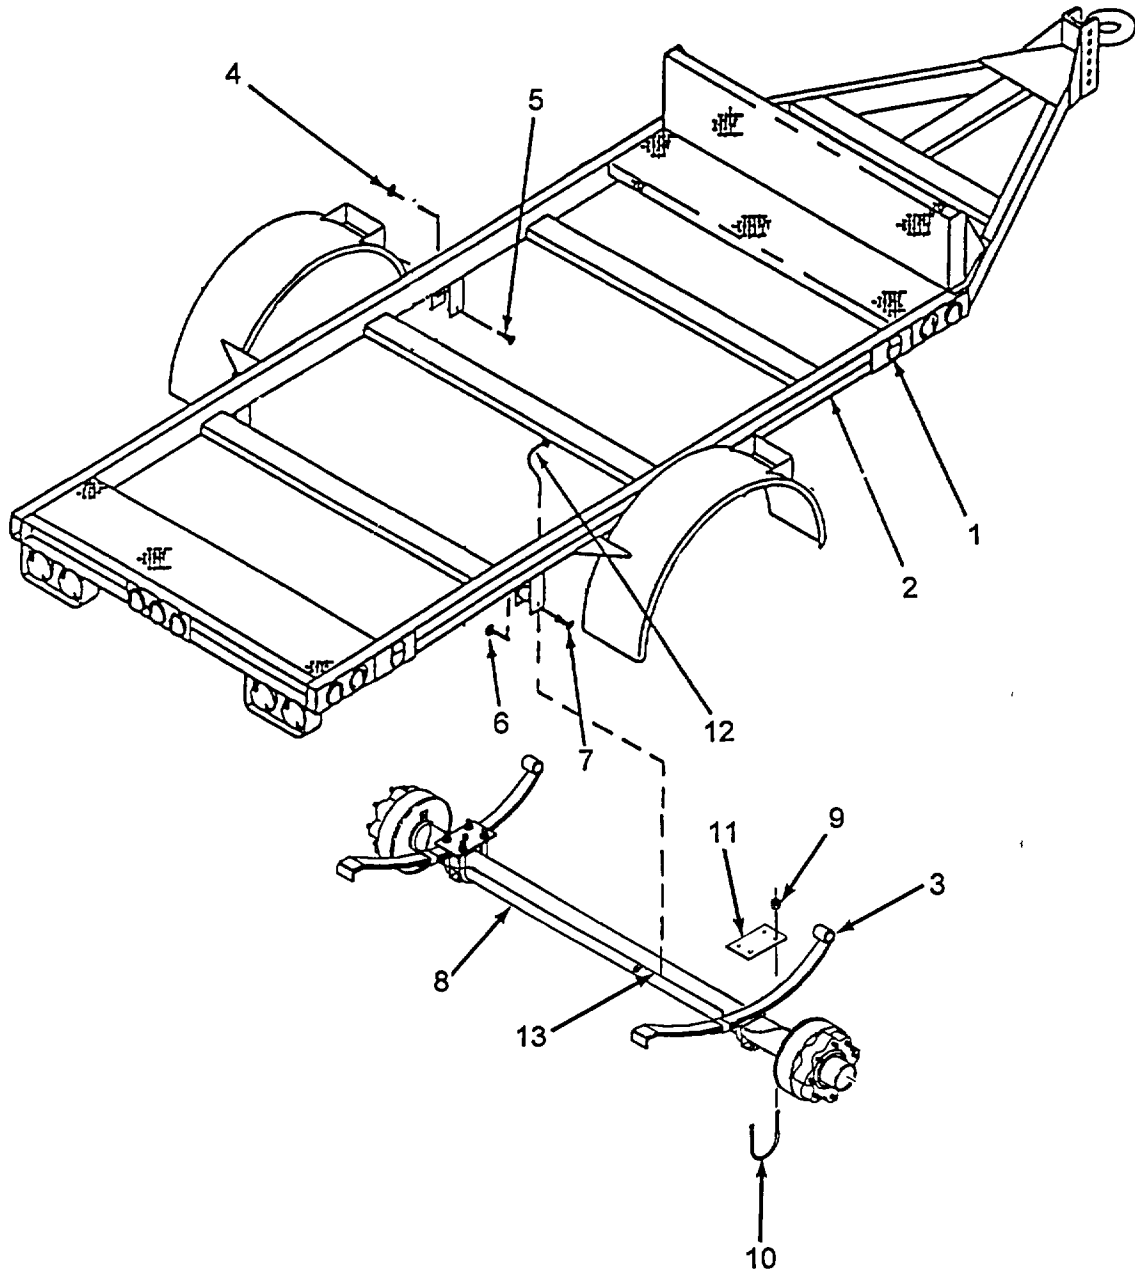

Figure 5-31. Axle Assembly
a. Removal. (Refer to Figure 5-31).
- (1) Loosen lug nuts.
- (2) Attach hoisting equipment to four lifting rings (1) and lift trailer frame (2) so that tires are clear of the ground.
- (3) Remove tires and wheels and lower frame onto jack stands.
- (4) Support axle with dolly jack.
- (5) Remove front nut (4) and bolt (5) from leaf springs (3) on both sides of trailer frame (2).
- (6) Remove rear nut (6) and bolt (7) from leaf springs (3) on both sides of trailer frame (2).
- (7) Disconnect brake line (12) from attachment (13) on axle.